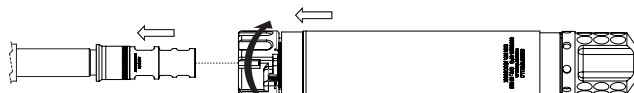

FIGURE 4
2. While holding lock ring latch in the unlocked position rotate lock ring to the unlocked position (black arrow above, FIGURE 4).
3. Slide suppressor over (white arrow above) suppressor adapter (FIGURE 4) and rotate counterclockwise until suppressor indexing slot (black arrow below, FIGURE 5) lines up with and seats onto adapter indexing tab (gray arrow below, FIGURE 5).